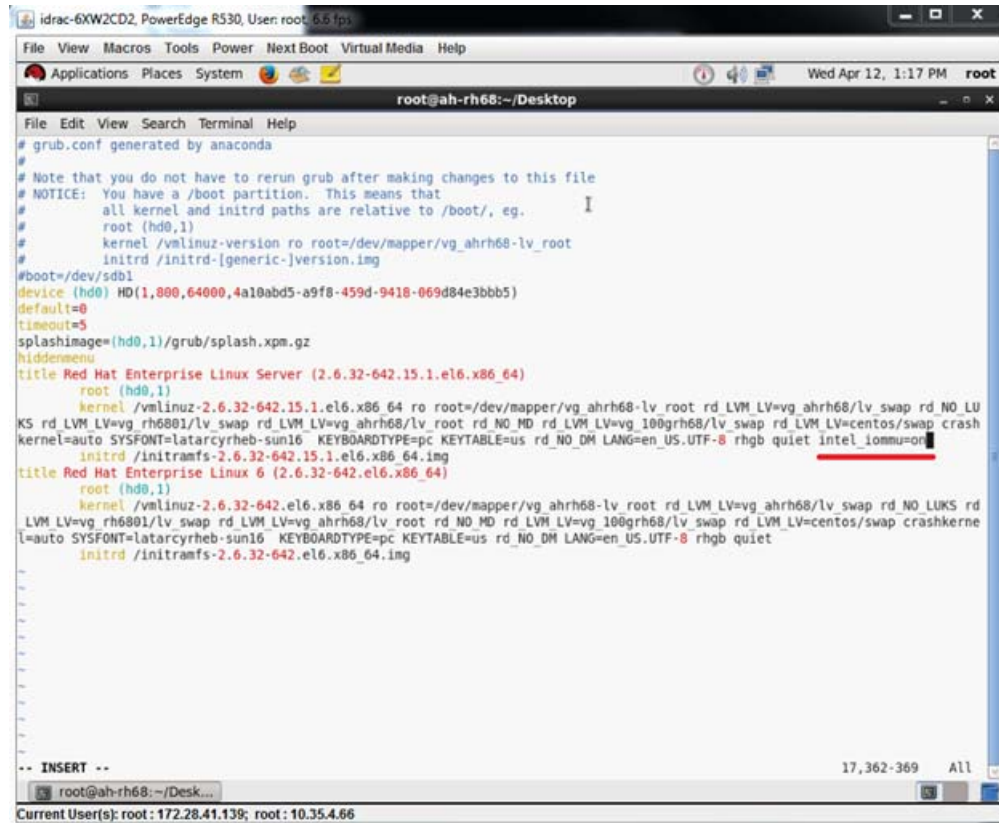

Figure 8-10. Editing the grub.conf File for SR-IOV
- a. Open the `grub.conf` file and configure the `iommu` parameter as shown in Figure 8-10.